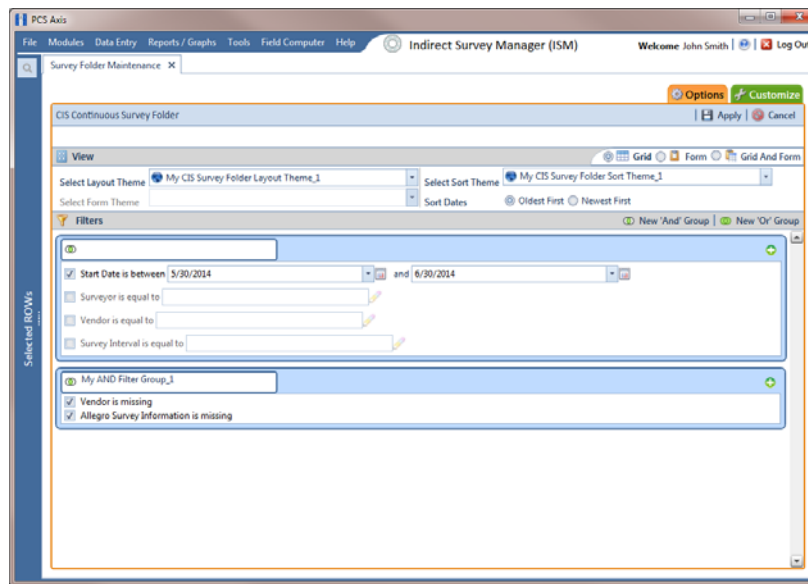

Figure 6-19. Options
- 15** To apply one or more custom filter groups to the *Survey Folder Maintenance* grid (Figure 6-19, page 202):